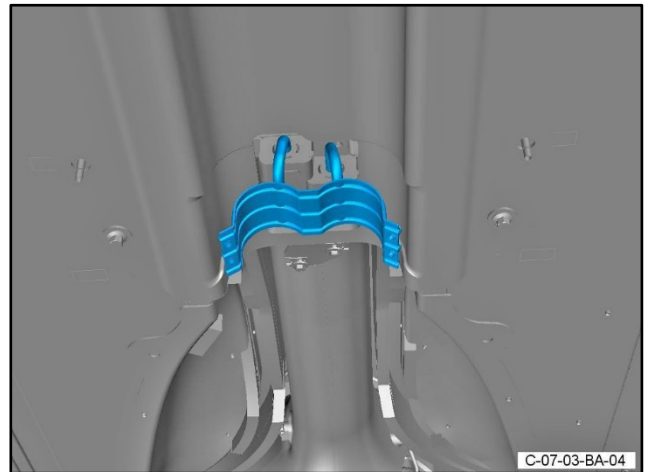

Figure 11
19. Remove the exhaust centre brace assembly (refer to Figure 11).